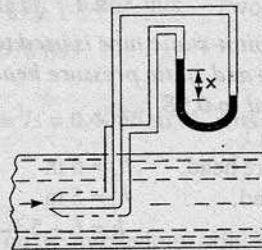

Fig. 6.17
4. Pitot-static tube, which consists of two circular concentric tubes one inside the other with some annular space in between as shown in Fig. 6.17. The outlet of these two tubes are connected to the differential manometer where the difference of pressure head 'h' is measured by knowing the difference